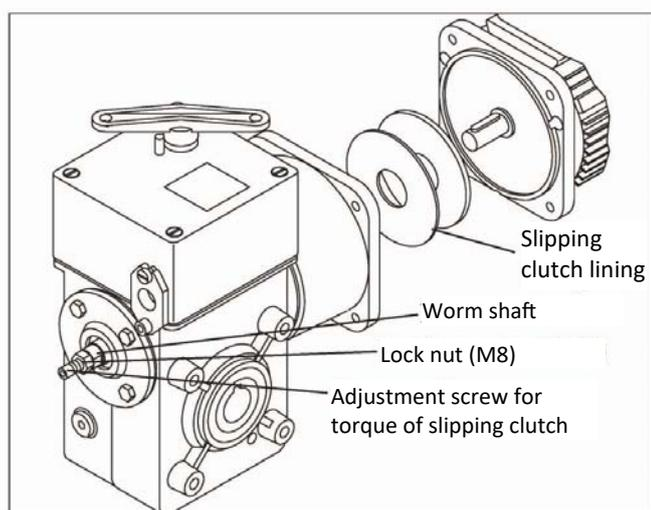

Fig. 5. Slipping clutch
2. Unscrew the adjustment screw fully (fig. 5)